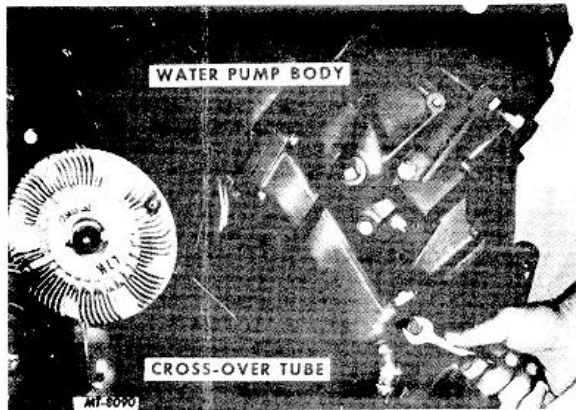

Fig. 13 Removing Crossover Tube
- f. Remove crossover tube and gaskets from water pump body and crankcase (Figure 13).